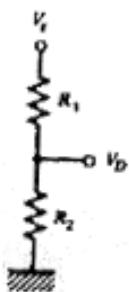

Figure Q.1 (b)
- b) The divider of Figure Q. 1(b) has $R_1 = 100.0\Omega$ and $V_g = 20.00\text{ V}$. Suppose R_2 is a sensor whose resistance varies from 40.00Ω to 80.0Ω as some dynamic variable varies over a range. Then find